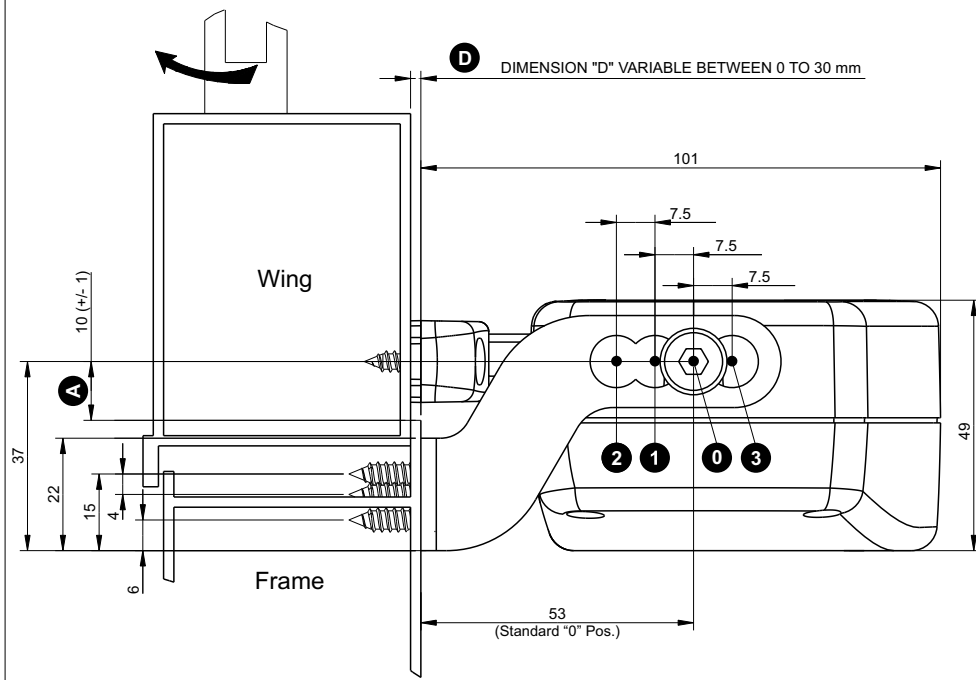
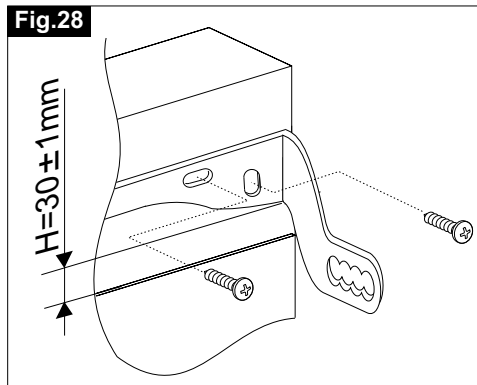
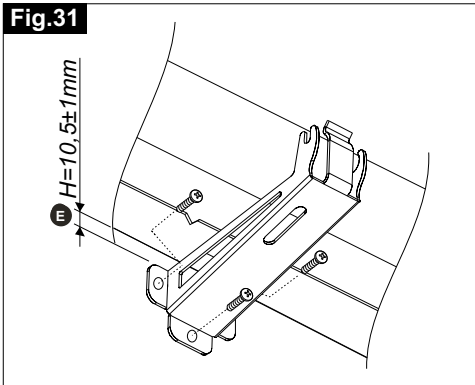
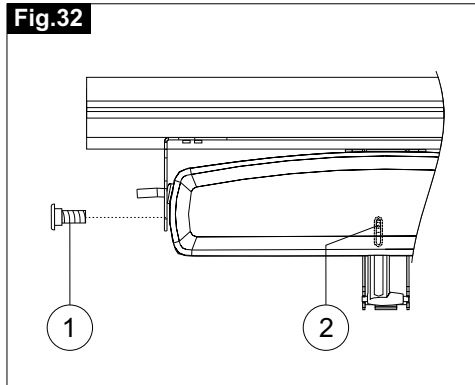

Fig.6b
Fig.29
Fig.32
Fig.33
VERIFY THAT THE DISTANCE "D" BETWEEN THE WINDOW FRAME (ON WHICH THE FIXING OF THE ACTUATOR IS FORESEEN) AND THE WINDOW FRAME WING (ON WHICH THE BRACKET FIXING IS FORESEEN) IS INCLUDED WITHIN 0 mm AND 30 mm, FOR THE TOP HUNG ASSEMBLY (SEE FIG.6a), AND WITHIN 0 mm AND 22 mm FOR THE BOTTOM HUNG ASSEMBLY (SEE FIG.6b).
- 5) **Fig.29**- Align the bottom hung bracket with the centre line of the window using as reference the central hole of the fastening screws and position the bottom hung bracket at **E** (see **Fig.6b**), then mark the drilling points;
- 7) **Fig.32**- Tighten with the two standard supplied screws (**Ref.1**) the actuator on the bracket connecting it to the window frame in the position "0" (see **Fig.6b**) and unscrew the chain adjustment end screw;
- 8) **Fig.33**- Select the position of the actuator with reference to the bracket connecting it to the window frame (**see Fig.6b**) and connect the chain end to the bottom hung bracket;